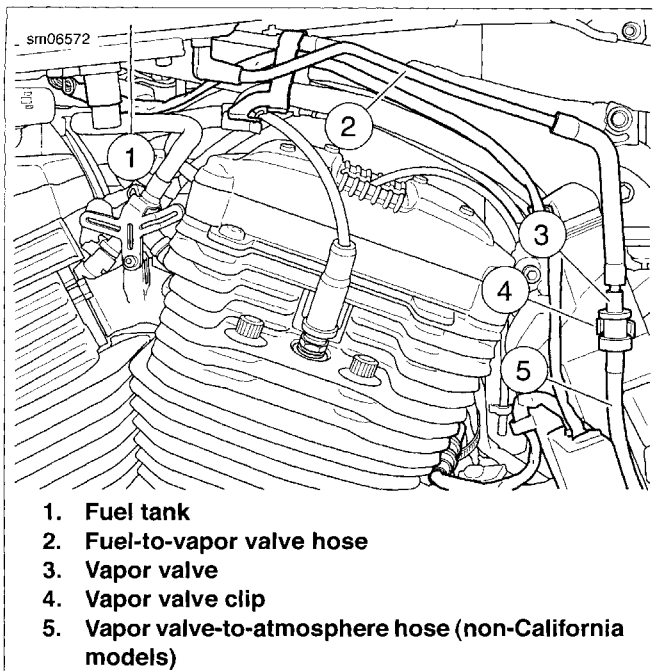

Figure 4-11. Vapor Valve Assembly
See Figure 4-11. The fuel tank (1) is vented through a standpipe (vent tube) within the tank. A hose (2) at the base of the fuel tank is connected to the standpipe.